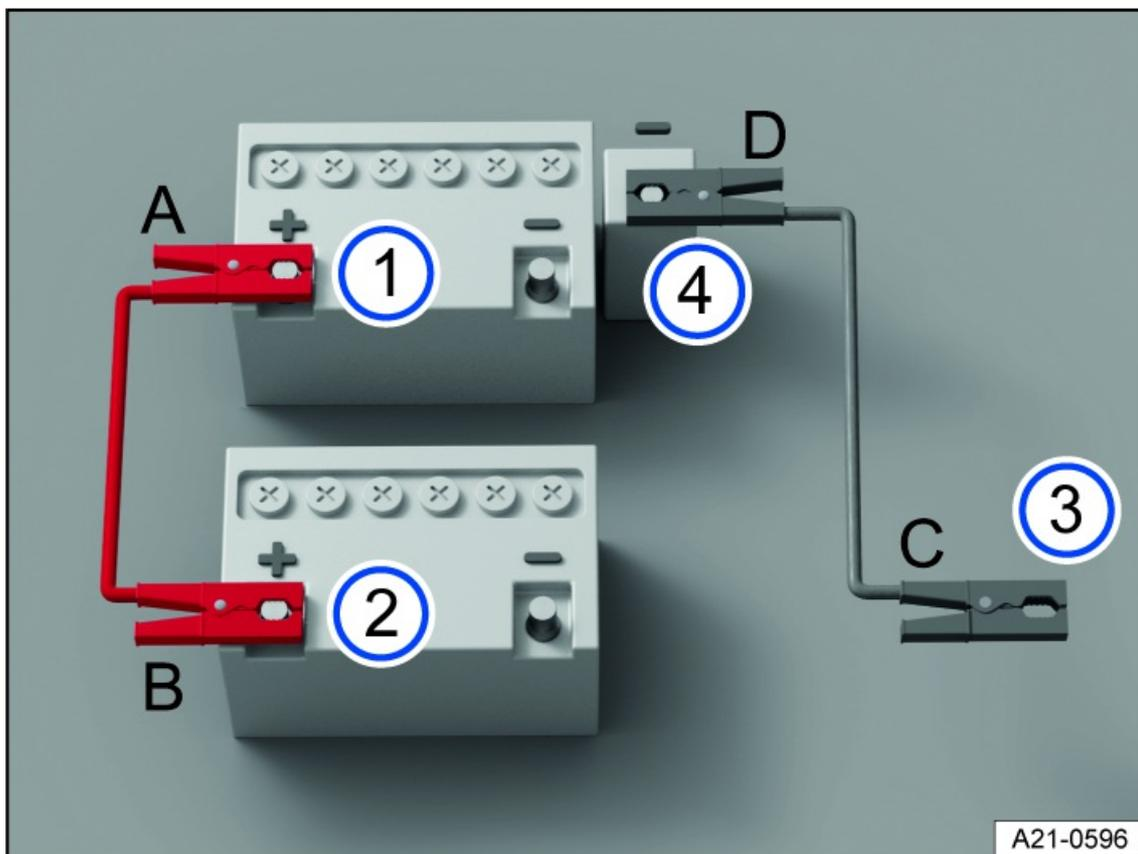

Fig. 157 Diagram for connecting the jumper cables.
Only connect the jumper cables in the sequence A – B – C – D *fig. 157*.
3. Connect one end of the red jumper cable to the positive battery terminal (+) of the 12 V vehicle battery with the discharged 12 V vehicle battery *fig. 157*  ⇒ .
4. Connect the other end of the red jumper cable to the positive battery terminal (+) on the vehicle providing current *fig. 157* .
5. Connect one end of the black jumper cable to a negative terminal jump-start point – on the vehicle with the 12 V vehicle battery providing the jump-start *fig. 157* .
- Or:** If there is no negative terminal jump-start point (–), connect the end of the black jumper cable to a large metal part that is bolted securely to the engine block, or the engine block itself, on the vehicle with the 12 V vehicle battery providing current *fig. 157* .
6. Connect the other end of the black jumper cable to the negative terminal jump-start point (–) on the vehicle with the discharged 12 V vehicle battery *fig. 157*  ⇒ .
3. Once the vehicle has been jump-started, always disconnect the jumper cables in the order D – C – B – A *fig. 157*.